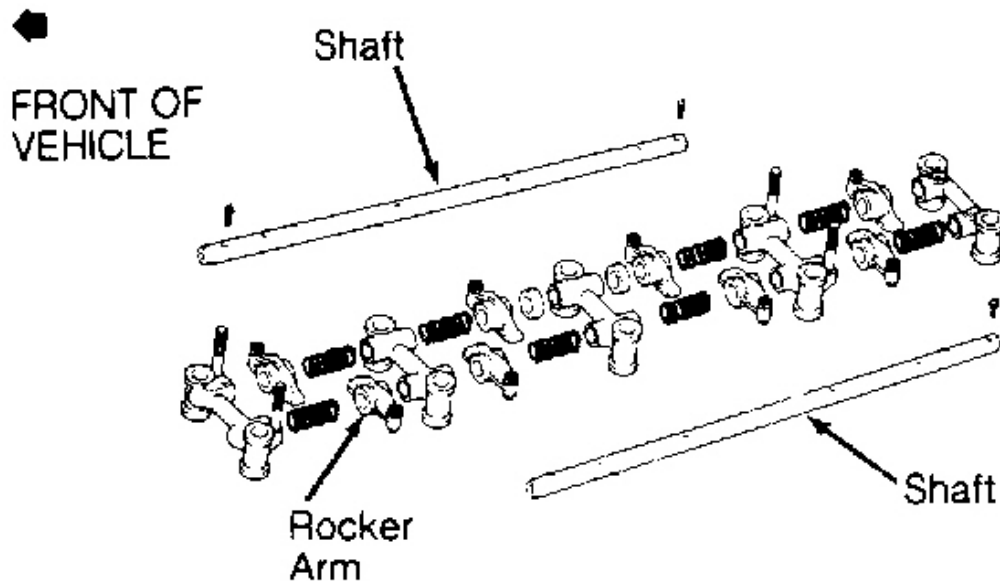

Fig. 6: Disassembled View of Rocker Arm Assembly
2. If clearance exceeds maximum limit, replace rocker arms and/or shafts. Reassemble in reverse order of disassembly. Note that rocker arms are identical. See **Fig. 6**.